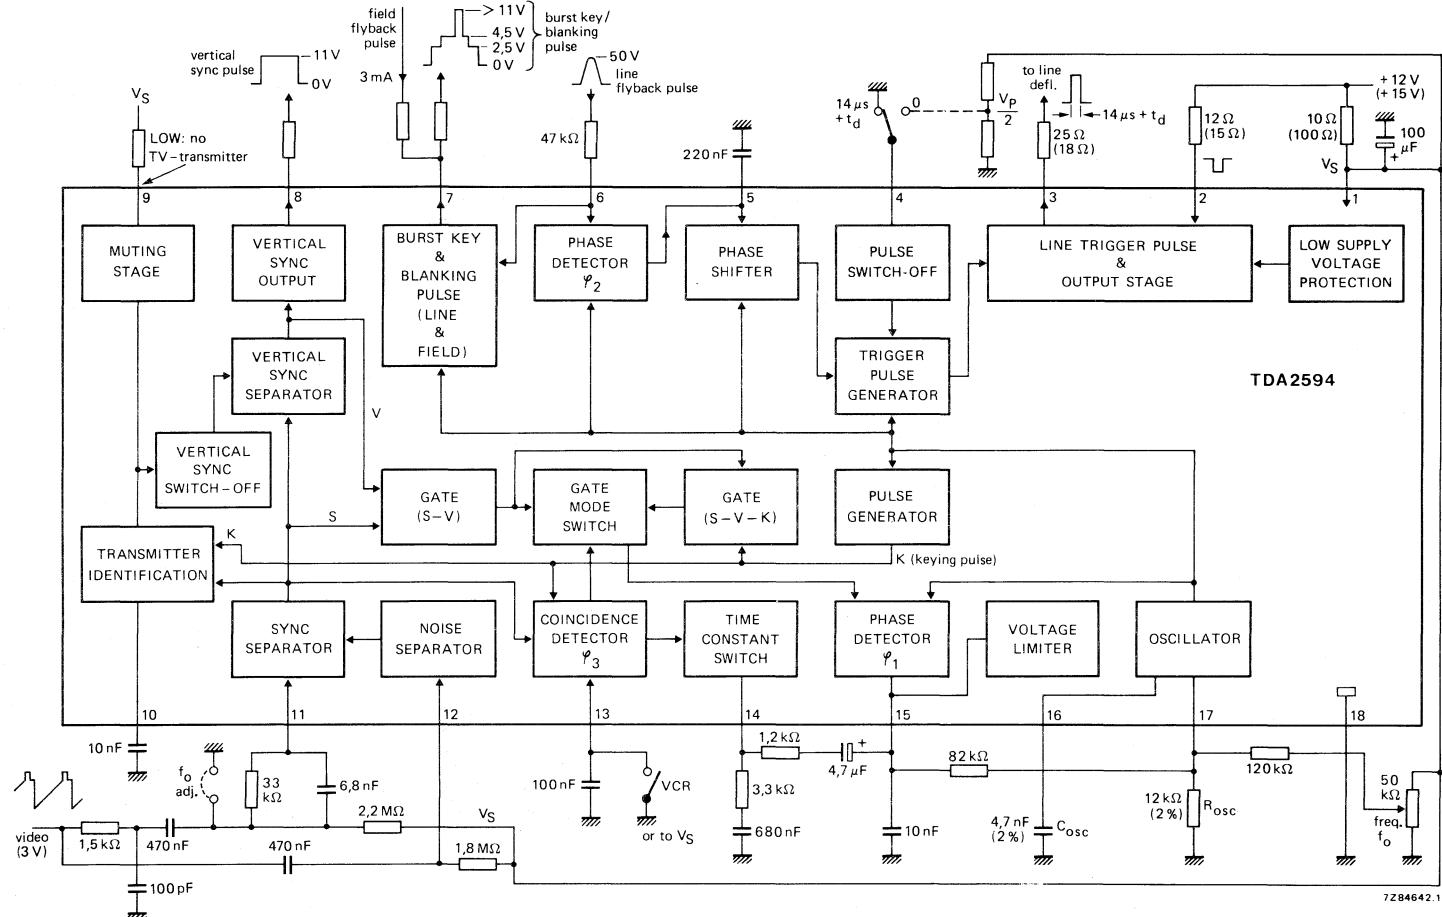

Fig. 1 Block diagram.
**CHARACTERISTICS** at  $V_{1-18} = 12$  V;  $T_{amb} = 25$  °C; measured in Fig. 1